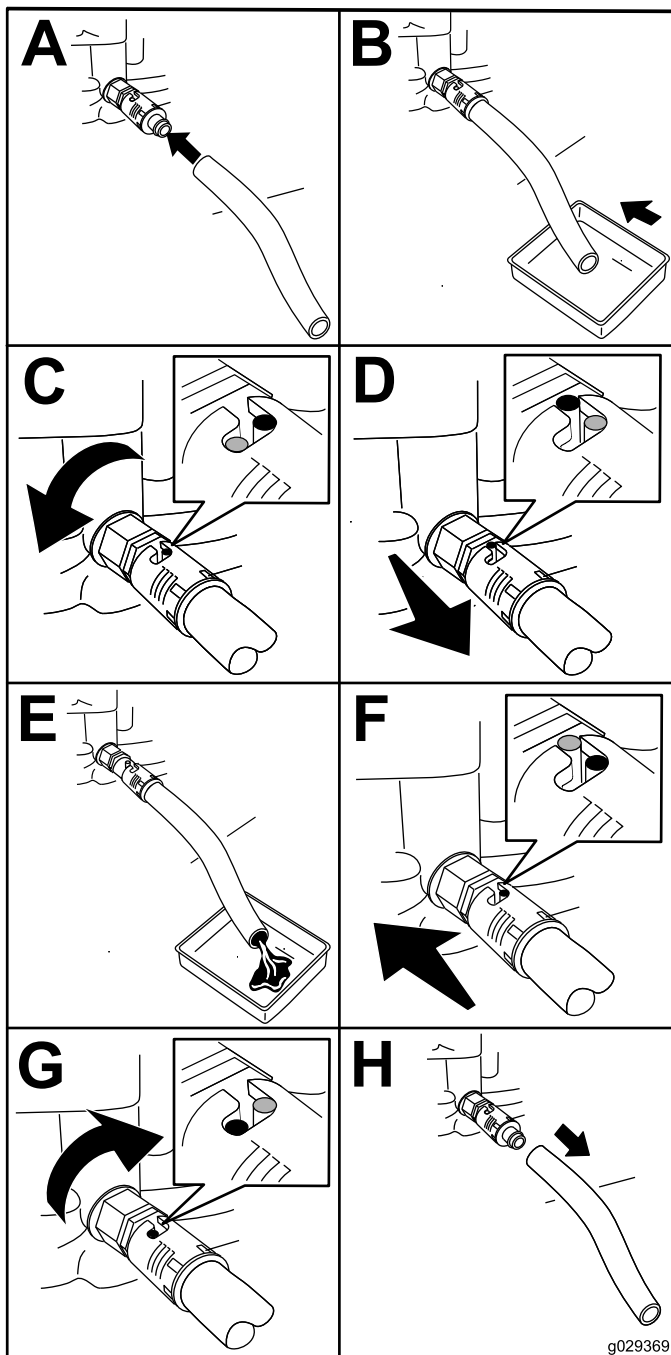

Figure 22
2. Drain the oil from the engine (Figure 22).